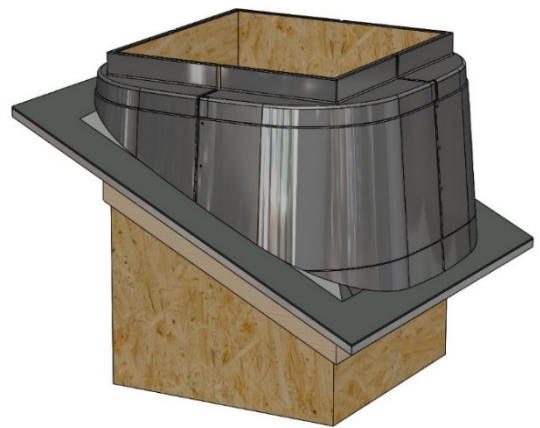

Figure 37 – Skirt extension final position.
2. Top rim of skirt should rest on the top edge of roof upstand - *see figure 37.* Skirt is factory pre-cut to required angle & depth.